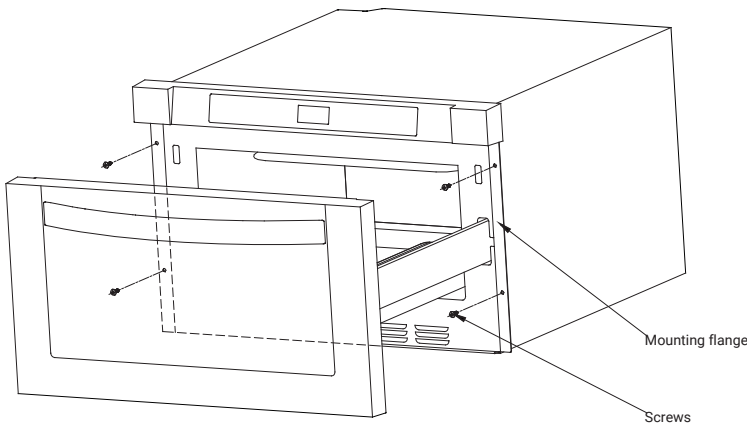
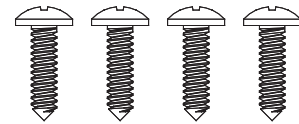

Figure 5
Figure 6
3. Push the drawer in all the way until the mounting flange aligns flush with the cabinet's face. (Refer to Figure 5 for visual guidance.)
4. Open the drawer and, using the pre-existing holes as a template, drill the cabinet with a 1/16" bit. (See Figure 5 for details.)
5. Fasten the drawer in place using the four screws provided. (Illustration shown in Figure 6.)
(Images or figures referenced in the text, such as Figure 5 or Figure 6, are not displayed here but would provide visual assistance in the actual installation process.)